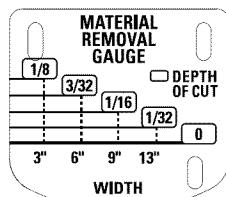

FIG. 8
Your planer is equipped with a carriage head lock lever (I) located on top of the motor (Fig. 8). This device secures the carriage that holds the cutter head to the four posts of your planer. By locking the carriage to the four posts, the movement that causes snipe is drastically minimized.
1. Raise head lock lever (I) to unlock the cutter head (Fig. 8). This allows the cutter head to be adjusted.
2. Adjust the thickness. Turn the depth adjustment handle (F) clockwise to lower the cutter head. Turn the handle counter-clockwise to raise the cutter head. One full rotation of the handle moves the cutter head $1/16"$ (1.6 mm).
3. Unlock the head lock lever (Fig. 8). Turn the depth adjustment crank, lowering the carriage by the desired increments, until it contacts the turret stop.
1. Unlock the head lock lever (Fig. 8) and turn the adjustment handle counterclockwise to raise the cutter head.